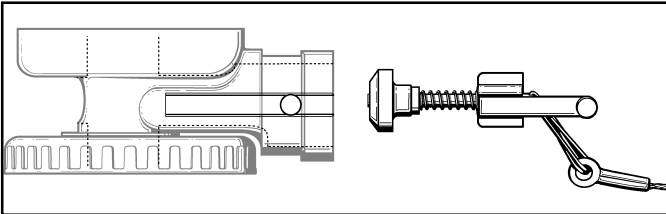

Figure 13
2.3.5 Position the poppet guide with poppet and dump plug outside the barrel of the dual valve body so that the larger rib faces toward the open side of the body, away from the collar (see Fig. 13). Lubricate the dump plug with a small amount of water, and align the arms of the poppet guide with the grooves inside the barrel of the body. Insert the poppet with dump plug into the barrel only until the “ears” of the poppet guide rest above the rim.